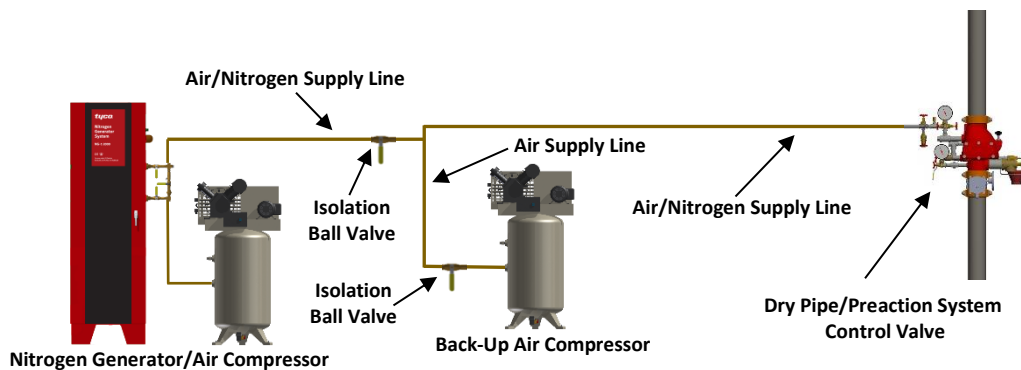

Figure 3b
Step 6b: Plumb the Nitrogen/Air Supply Line – With Separate Air Compressor (Figure 3b)